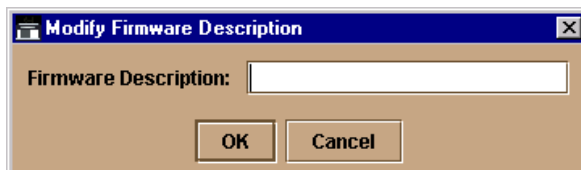

Figure 3-28: Modify Firmware Description
4. Select the firmware version to be modified and click Modify. The Modify Firmware Description dialog box (Figure 3-28) displays.